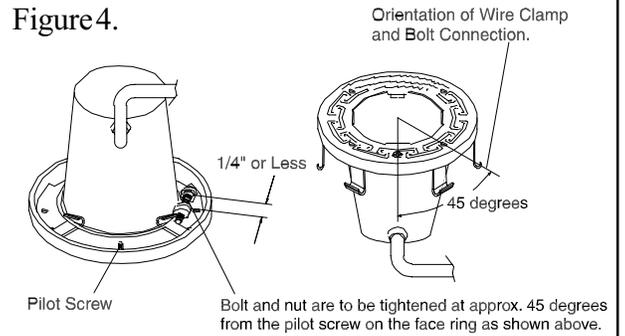

Figure 4.
- With the light resting on its base, place the gasket assembly on top of the light shell as shown, see Figure 4. A NEW LENS GASKET MUST BE USED EACH TIME THE LIGHT IS REASSEMBLED. Center the stainless steel face ring and place it over the lens and gasket assembly. The locking levers should all be hanging freely down to install over the lens and gasket. Align the special pilot screw on the face ring with the letter "R" of the word "Before" as used in the phrase "SUBMERGE BEFORE LIGHTING" found on the lens surface and the compression fitting on the light shell, see Figure 1.
- Turn the light so that it is now resting on its lens. Tighten the screw and nut until the distance between the ends of the clamp equals 1/4 inch or less; see Figure 4.